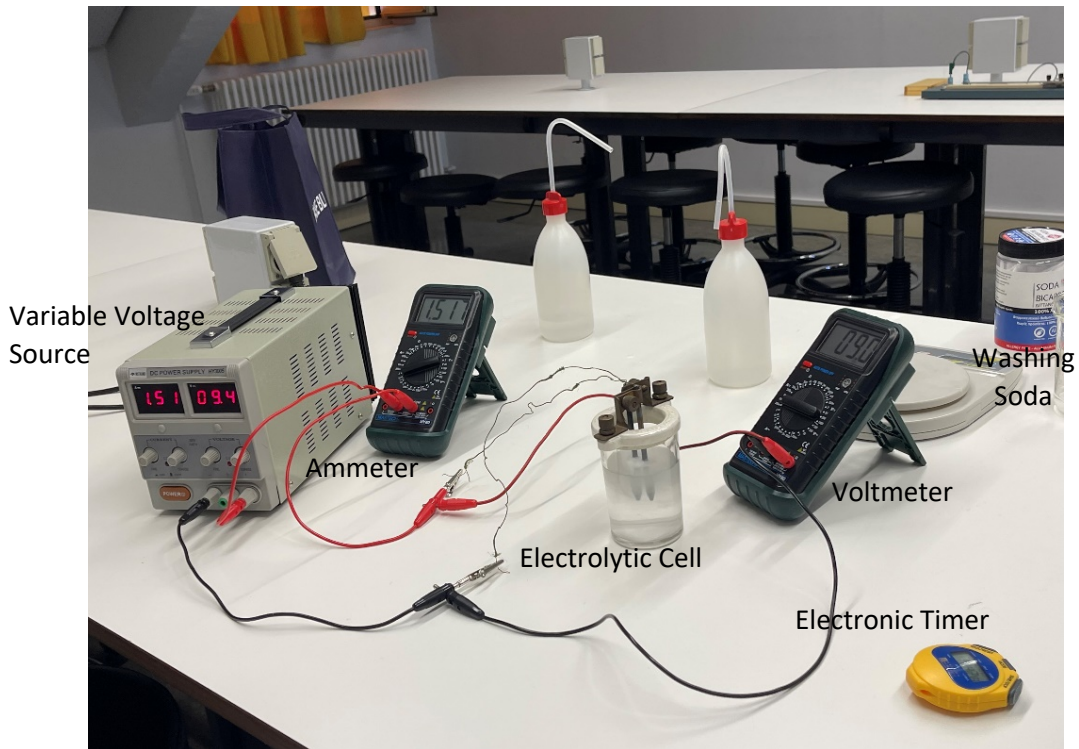

Figure 3: Photograph of the experimental setup
- Set the apparatus as shown in Figure 3.
- Evaluate the Power P (W) by multiplying the value of the electric current I (A) and the voltage V (V) supplied by the source.
- Plot a graph of Electric Current I (A) Vs Time (s).